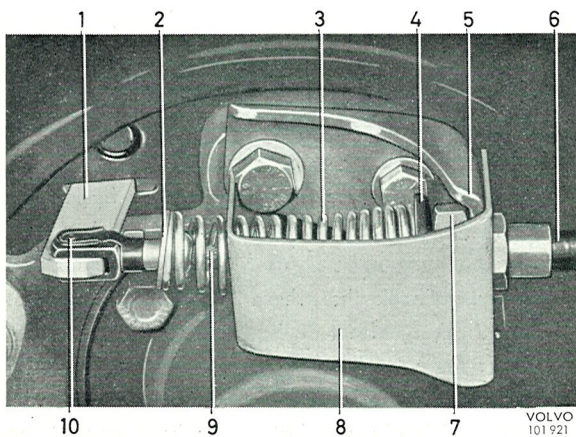

Fig. 5-83. Fitting the spring tool
3. Check that the brake pads are not stuck to the brake disc. To prevent the lever when adjusting from influencing the shoes and thus give misleading results, the spring tension acting on the lever should be reduced. This can be done by fitting holder SVO 2742 (Fig. 5-83) or by disconnecting the cable from the lever.
5. Place holder SVO 2742 so that the return spring is held in position according to Fig. 5-83. Bend up the lock and remove the lock pin so that the cable releases from the lever.
2. Fit on new rubber cable guides for the cable suspension. Place the cable in position in the rear attachment and tighten the nut. Fit the washers and return spring. Compress the spring with the help of the holder tool, see Fig. 5-83. Oil the lock pin and fit it together with the cable on the lever. Fit the attachment and rubber cable guide on the frame member.